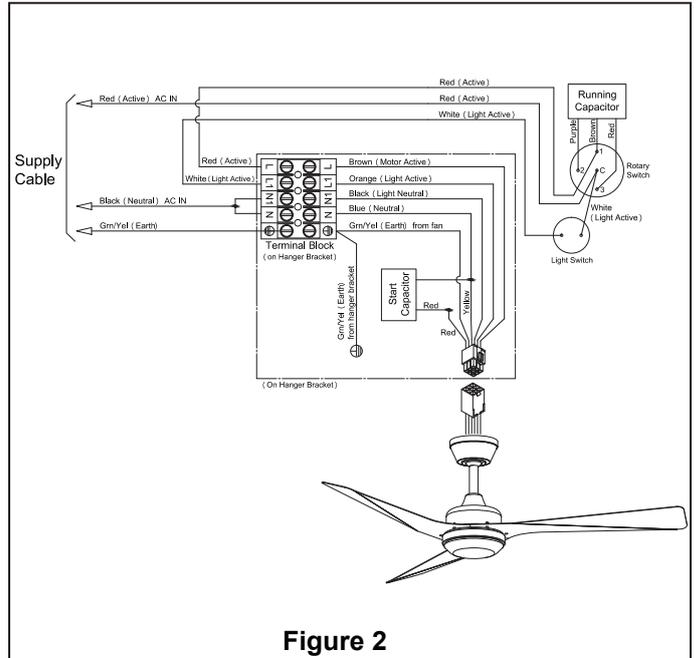

Figure 2
2. Ensure wiring connections are as shown in Fig 2. The Active (Red) supply wire must be connected to terminal "C" on the rotary switch. Return switched wire to ceiling fan to be connected from terminal "1" on the rotary switch to "L" terminal on the connector block.